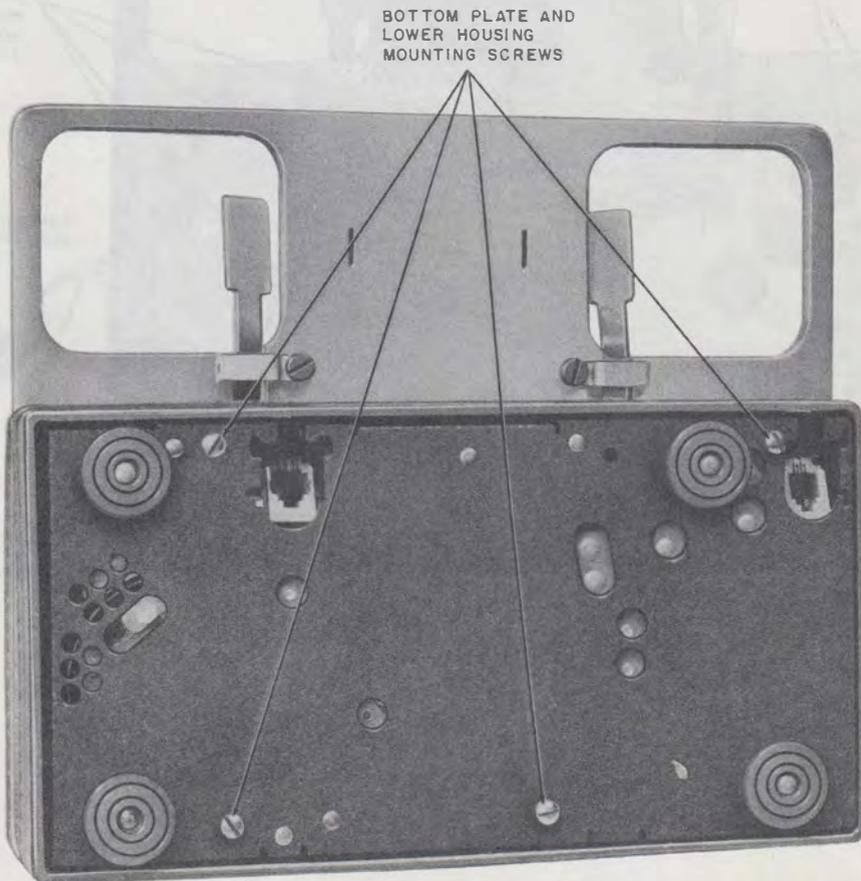

Fig. 4—930A-(MD) or 2930A-Type (MD) Telephone Set, Bottom View
(1) Remove handset and mounting cords from the bottom of the telephone set.
(2) Remove the four bottom plate and lower housing mounting screws (Fig. 4).
(9) Reassemble lower housing and bottom plate to handset mounting plate (Fig. 4).